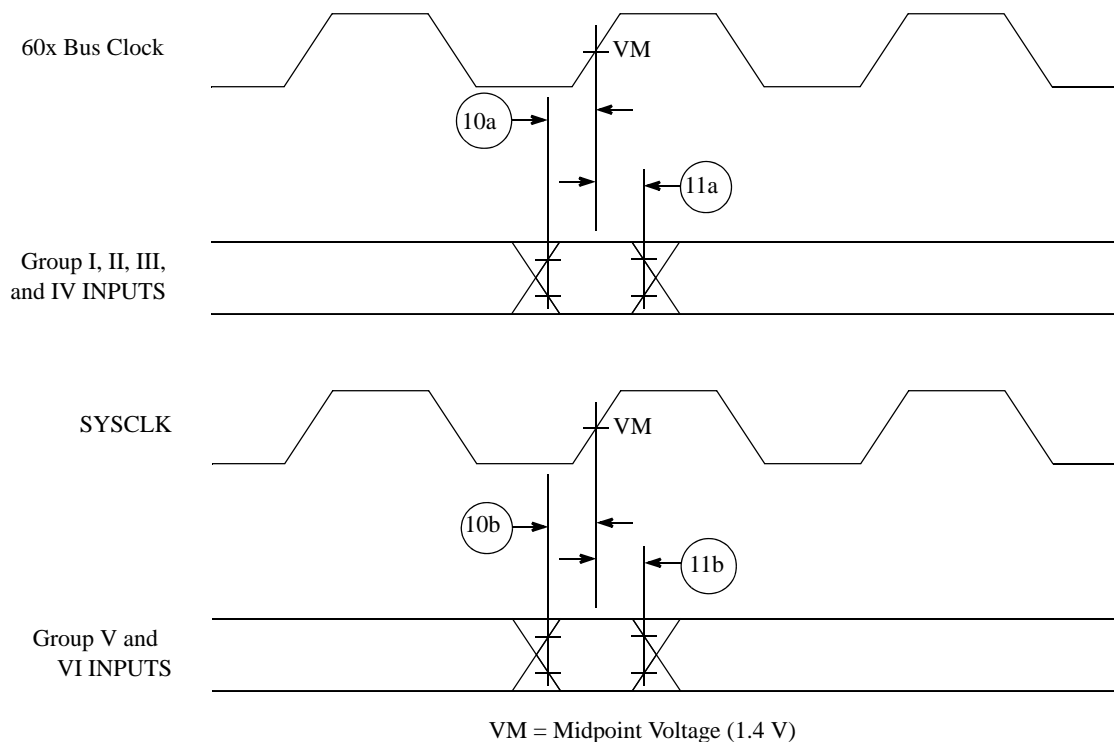
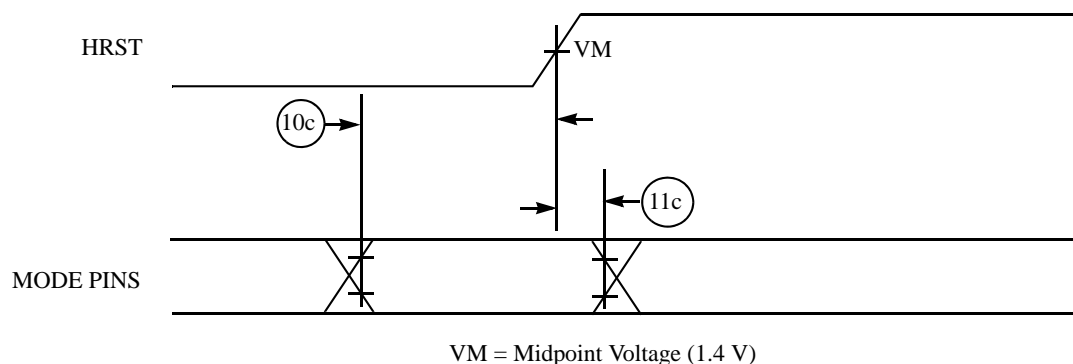

Figure 3. Input Timing Diagram
Figure 4. Mode Select Input Timing Diagram
Table 7 provides the input AC timing specifications for the Tsi106 as defined in Figure 3 and Figure 4. These specifications are for operation between 16.67 and 33.33 MHz PCI bus clock (SYSCLK) frequencies. Assume Vdd = AVdd = 3.3 ± 5% V DC, GND = 0 V DC, and 0 ≤ Tj ≤ 105°C.
- ¹ Input specifications are measured from the TTL level (0.8 or 2.0 V) of the signal in question to the 1.4 V of the rising edge of SYSCLK. Both input and output timings are measured at the pin (see Figure 3).
- ¹⁰ The setup and hold time is with respect to the rising edge of $\overline{\text{HRST}}$ (see Figure 4). Mode select inputs include the RCS0, FOE, and DBG0 configuration inputs.
Figure 3 provides the input timing diagram for the Tsi106.
Figure 4 provides the mode select input timing diagram for the Tsi106.